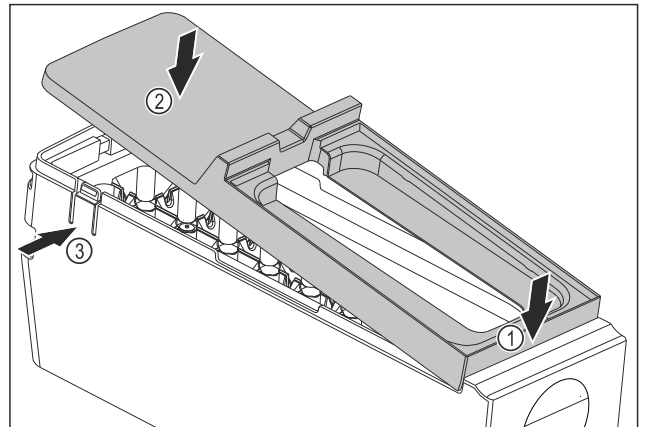

Fig. 147
- ▶ Installing the EasyTwist-Ice body cover: Place the cover on the front. Fig. 147 (1)
- ▶ Lower the cover at the rear. Fig. 147 (2)
- ▶ The cover locks into both tabs Fig. 147 (3) audibly.